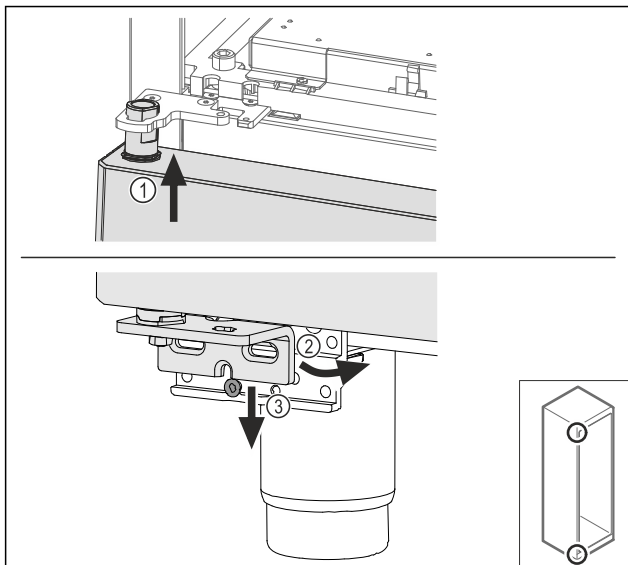

Fig. 56
- Insert the door slightly tilted at the top Fig. 56 (1), align the door straight Fig. 56 (2) and place it on the bottom of the swap bearing block screw Fig. 56 (3).